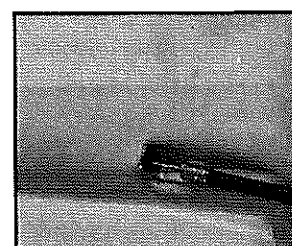

Fig. 28
11. Run the cable through the bottom bracket cable guide, or install the rear housing (Fig. 28), and connect the cable as normal.
2. Apply Loktite to all contact surfaces between the bearings and the frame or swingarm, and install the bearings. The "top hats" are installed into the frame and swingarm from the middle towards the outside, with the large, flat surface facing inside (Fig. 28).